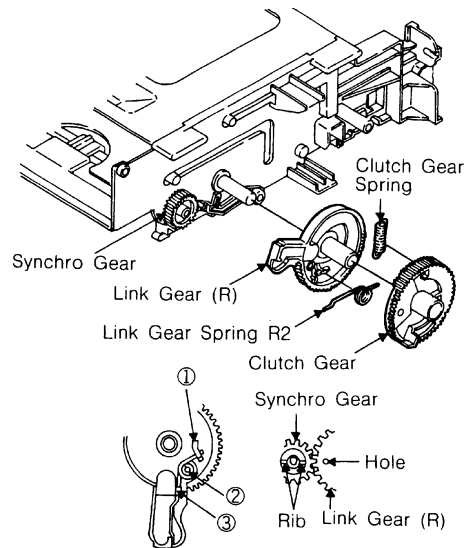

Fig. 2-11
2-11: LINK GEAR (R) / CLUTCH GEAR (Refer to Fig. 2-11)
2. Remove the Link Gear (R) and Clutch Gear.
1. When installing the Link Gear Spring R2 on the Link Gear (R), proceed in order (1), (2), (3) as shown in Fig. 2-11.
2. When installing the Link Gear (R), match the position of the Link Gear (R) so that the line over the two ribs on the Synchro Gear goes through the marking hole on the Link Gear (R).